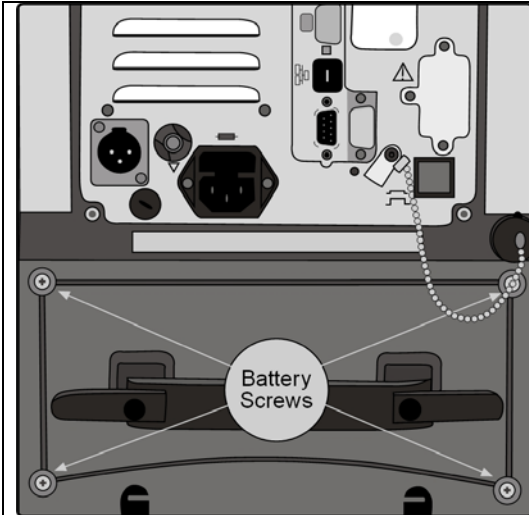

Figure 185: Battery Screw Locations
3. Remove all four screws from the power pack, using a #1 Phillips screwdriver, as shown in the Figure 185.